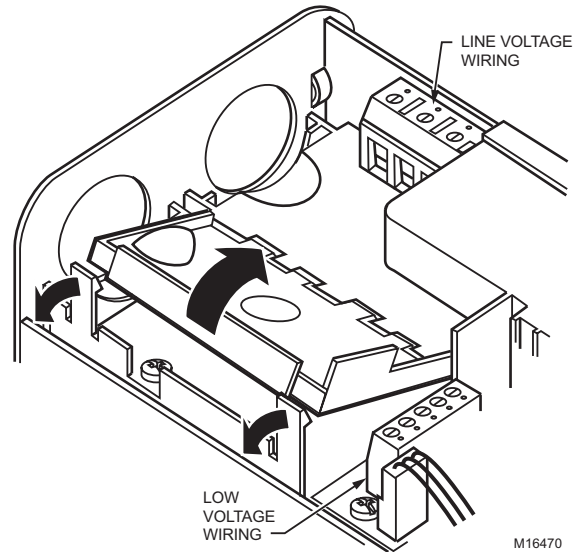

Fig. 5. Opening ML7999 low-voltage wiring compartment.
2. Pull back the snap-locks while opening the low-voltage compartment. See Fig. 5.